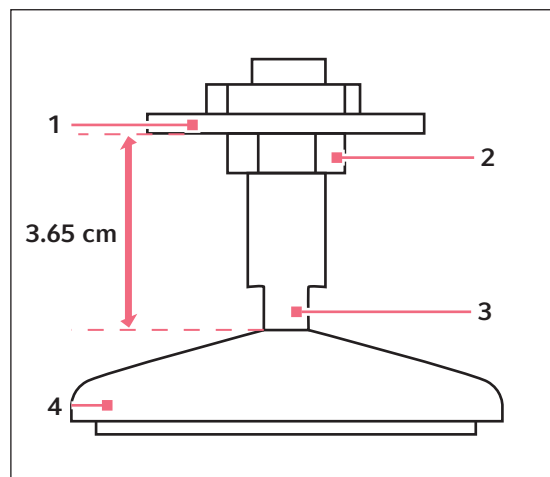

Fig. 6-2: Adjustable Foot (as shipped)
1. Immobilize the top locknut against the unit with one wrench whenever you adjust the foot, to keep the threaded stud from falling out (see Fig. 6-2 on p. 22).